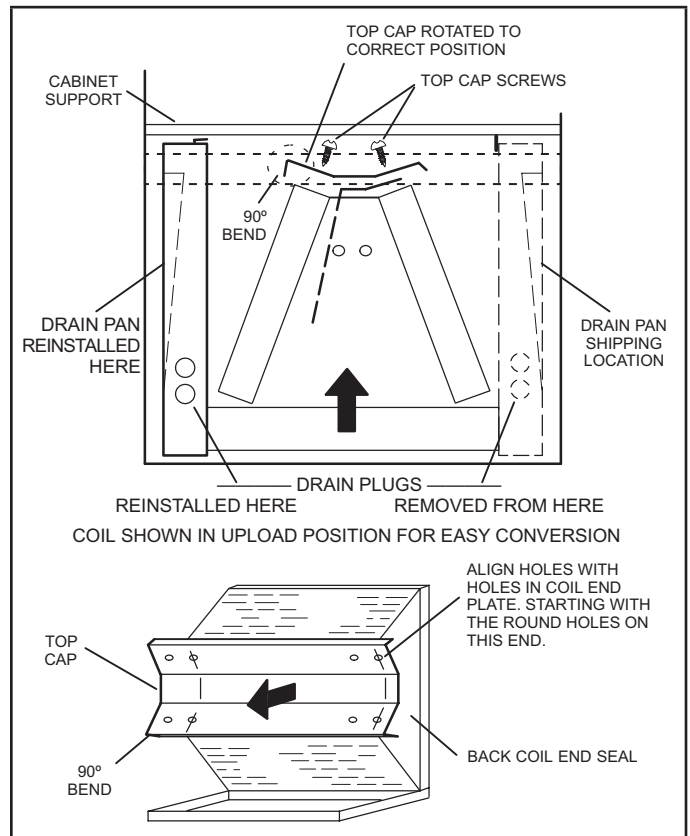

FIGURE 8. Field Modification for Left-Hand Discharge
- 7 - Rotate top cap 180° front-to-back and align with unused screw holes. Holes must align with front and back coil end plates. The top cap has a 45° bend on one side and a 90° bend on the other. **The 90° bend must be on the same side as the horizontal drain pan** as illustrated in FIGURE 8.